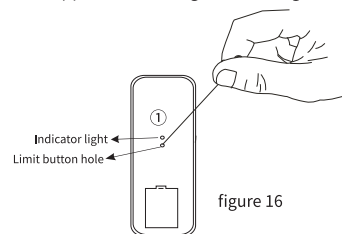
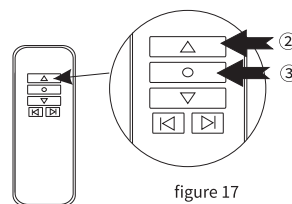

figure 16
figure 17
- Use a small paper clip or small round needle to insert the electronic positioning setting key hole of the elevator on the back of the remote control (as shown in Figure 16), press the electronic positioning setting button of the elevator, the red and blue LEDs will light up, and then press the elevator Rack up button, at this time, after the lift rises to a suitable position, press the stop button of the remote control (as shown in Figure 17), and then press the up button electronic positioning setting button, the red and blue light-emitting diodes are off, and the lift moves up and down. Once, the electronic upper limit setting of the lifting frame is completed.